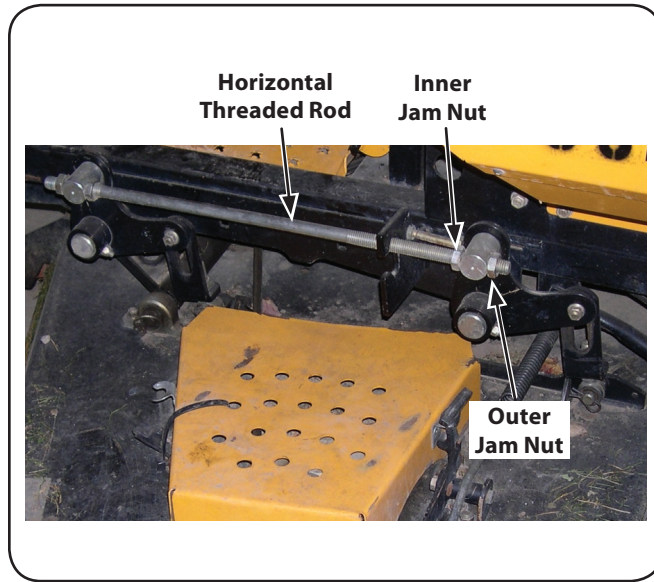

Figure 6-9
- Loosen the inner jam nuts at the rear left and right of the horizontal threaded rods. See Fig. 6-9.